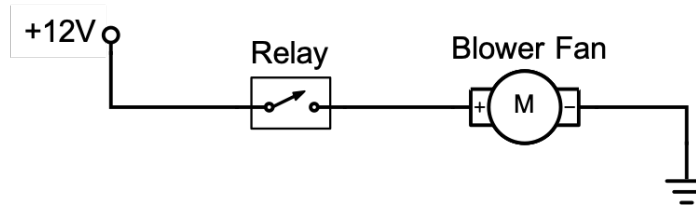

Figure 2 – A relay on the Opta PLC is used to automatically switch the blower fan ON and OFF.
4. Use the terminal blocks to construct the relay circuit in Fig. 2. The relays are located on the bottom of the Opta PLC.